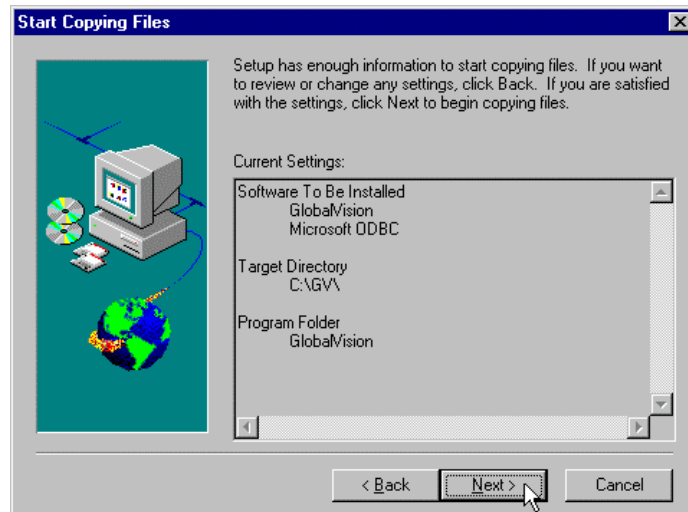

Figure 18 – Start Copying Files dialog box
14. The START COPYING FILES dialog box is displayed. The options that have already been selected are listed. If you wish to change them, select the **<Back** option which takes you back to the previous screens where changes can be made. If you are ready to continue, select **Next>**. See Figure 18.